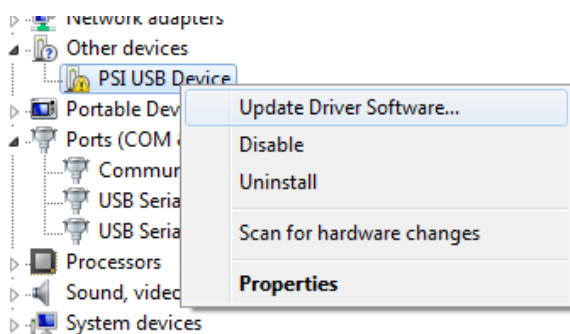

Fig. 15 PSI USB device.
- Connect the PolyPen to the PC. You should see that PSI USB Device appears in the list. Right click on it and select Update Driver Software (Fig. 15)